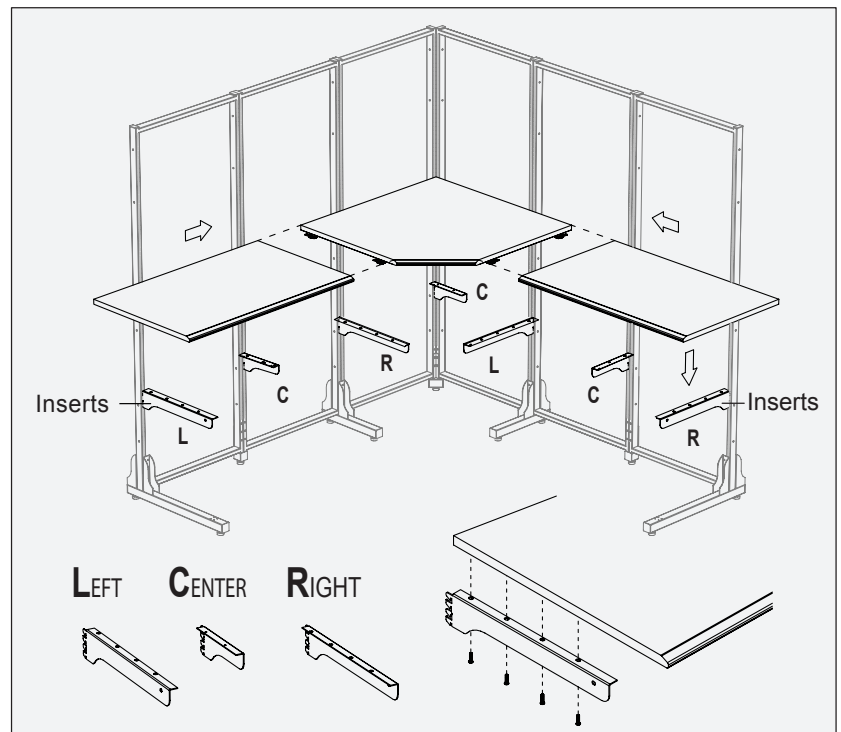

Fig. 19
- A. Mark the corresponding slots on the Frames for the placement of the Desktop Brackets (recommended height is 30" from the floor to the top of Desktop). Insert all Desktop Brackets (Fig. 19) into marked slots.
- B. Place the Desktop on top of the Brackets (laminated surface facing up). Secure the Desktop to the Brackets with screws (Fig. 19).